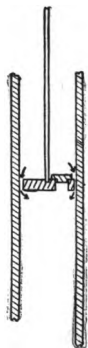

FIG. 314
**319. Priming a Pump.** Sometimes the sides of the piston, which are generally of leather, become dry from lack of use, so that the piston does not touch the walls of the tube all around (Fig. 314). In this case air leaks around the piston as it is raised and lowered. Water must be poured in at the top so as to fill this space while the piston is being moved. The action must of course be quick or the water will soon run down around the piston. Such a process of starting a dried out pump is called "priming." After the leather becomes wet, it swells and the piston fits tightly.